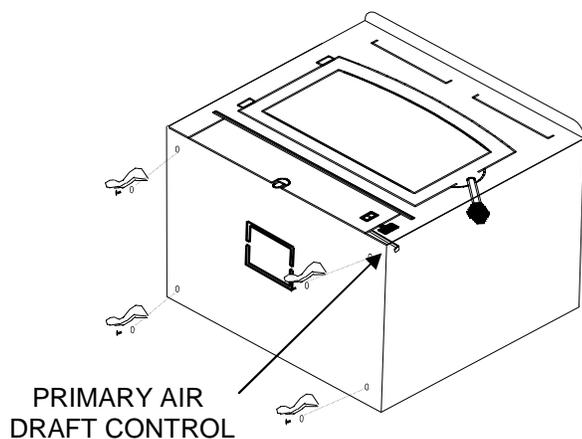

Figure 12
3. Check primary air draft control to ensure that it slides freely. (See Figure 12).
5. **(Leg Kit):** If legs are to be used, obtain four legs, attach legs to holes in bottom of unit with bolts and washers supplied with leg kit. (See Figure 12).